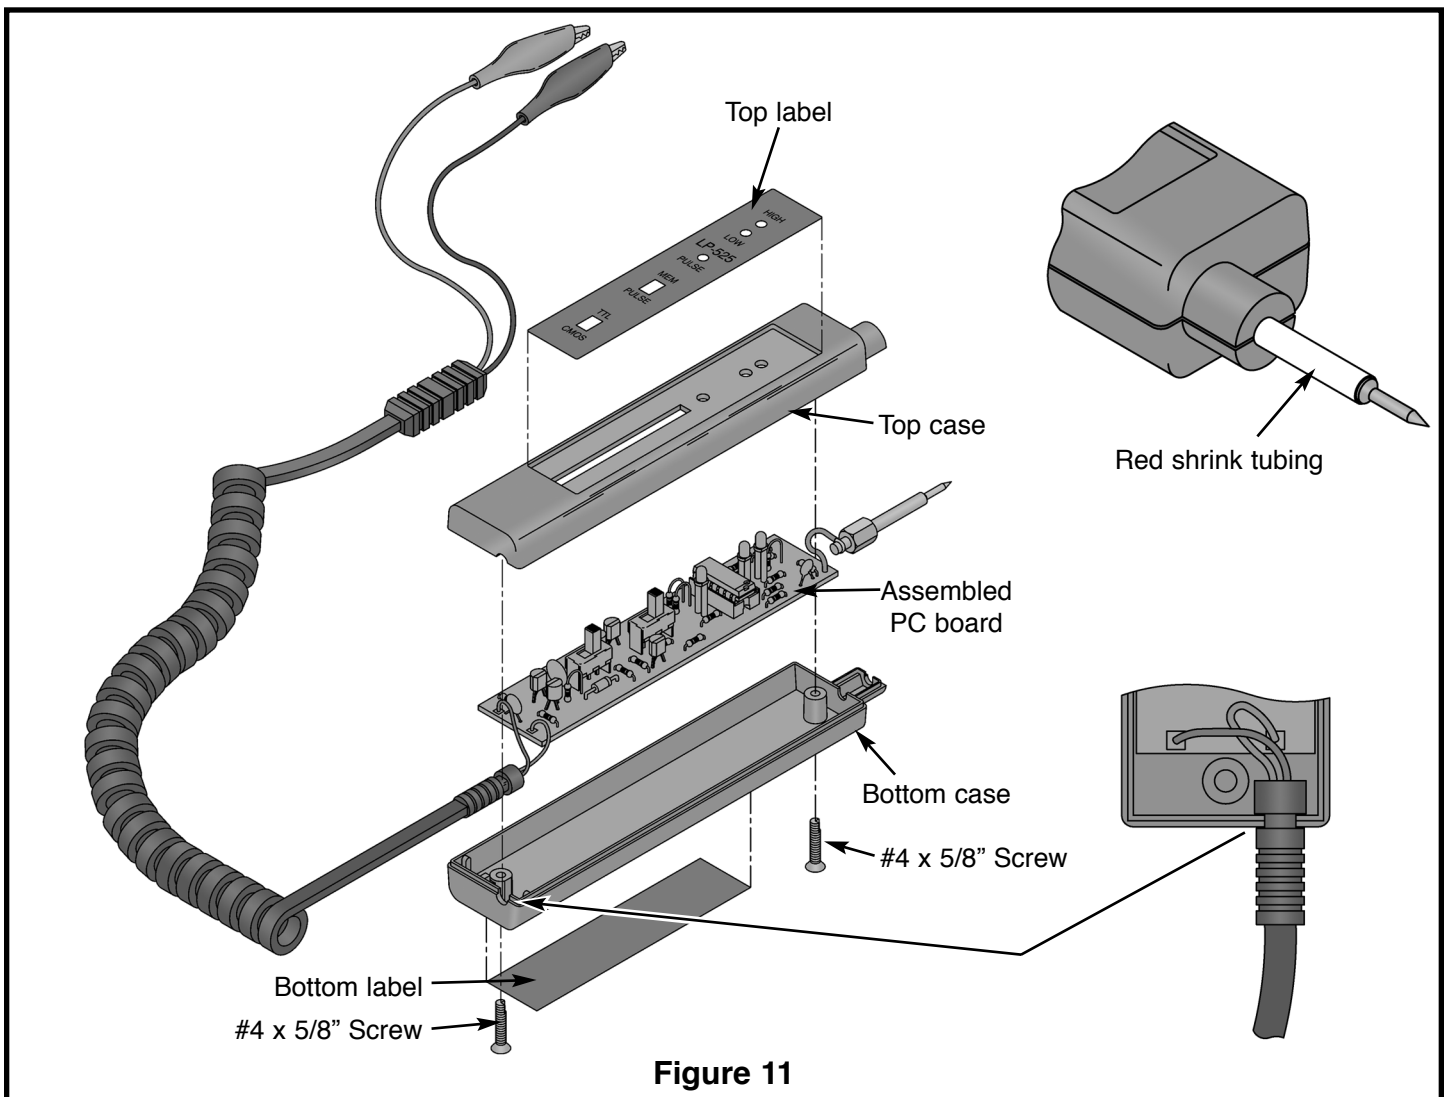

Figure 11
- ❑ Install the two labels to the case, as shown in Figure 11. Be careful to place the labels on neatly and correctly. Peel the backing off to expose the glue.
- ❑ Place the PC board assembly into the case as shown in Figure 11. Use two #4 screws to hold the case together. **Do not over-tighten** or the holes may strip out.